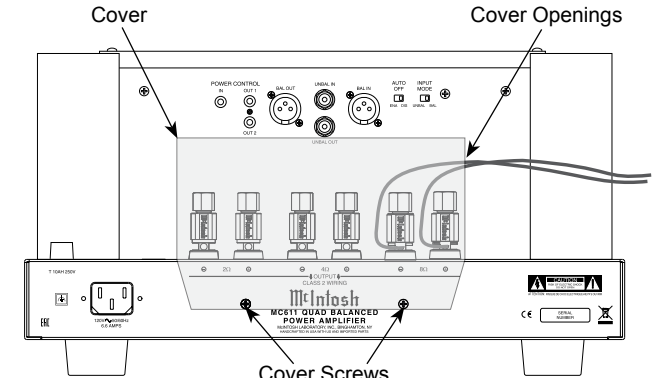

Figure 6 (Outside USA and Canada)
11. Locate the Terminal Connections Cover from the inside of the MC611 shipping carton. Insert the just prepared Loudspeaker hookup cables thru the cover opening on the right side. Refer to figure 6.
*Note: The illustration in figure 6 is connections for 8Ω (ohms) Loudspeakers.*
13. Attach the Terminal Connections Cover to the MC611 Rear Panel with the previously removed Screws. Refer to figure 6.